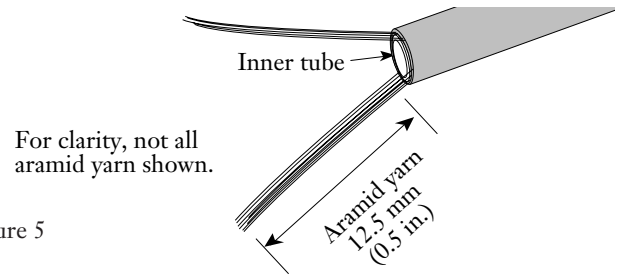

Figure 5
c) Cut the end of the inner tubes inside the fan-out tubes with a sharp utility knife to assure that the tube ends are open. Use care to avoid cutting the the aramid yarn (Figure 5).